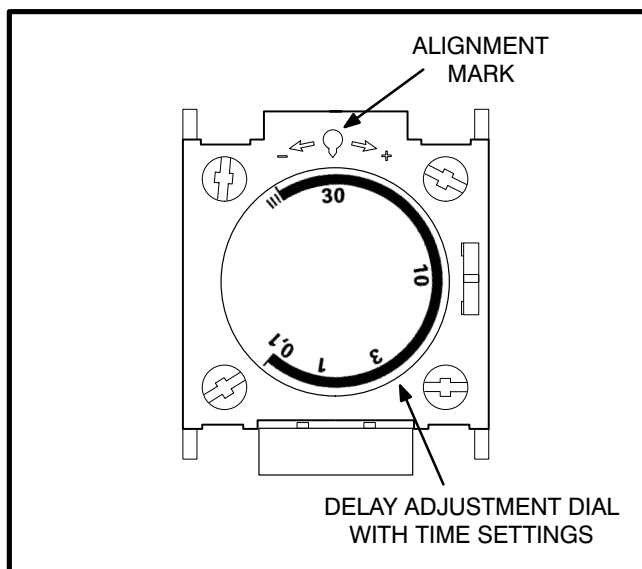

FIGURE 4. PROGRAM TRANSITION MODULE
7. To set the time delay (Figure 4), rotate the dial to align the desired time setting on the dial with the alignment mark on the timer. The length of time that the transfer switch is in the mid-position can be adjusted from 0.1 to 3 seconds or 0.1 to 30 seconds, depending on the timer option. Close and lock the cabinet door.